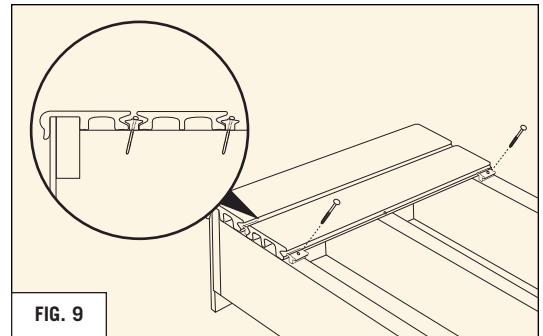

FIG. 9
- Install clip fasteners on all remaining joists. All Wing-clips should be installed with the white line on the Wing-clips facing away from the deck board. Ultra clips are not directional. Installing a clip on the toe screwed joist is optional. (REFER TO FIG. 9)